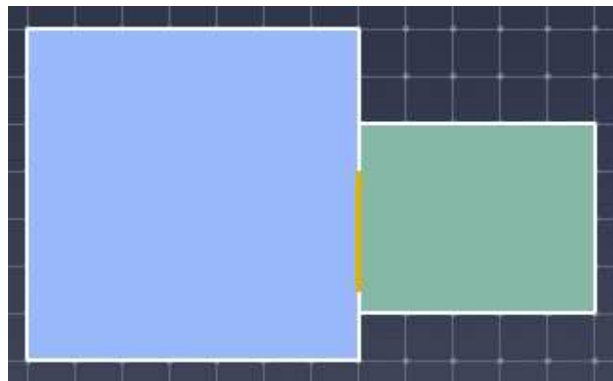

Figure 41. Adding a thin door to connect the rooms
3. The created door will appear as a thin, orange line in the 3D and 2D views as shown in Figure 41.